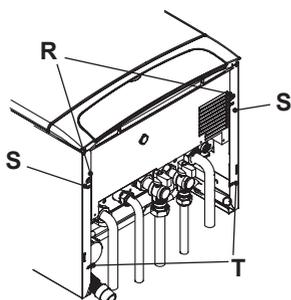

Fig. 6.10
- Remove the screws R and S (Fig. 6.10).